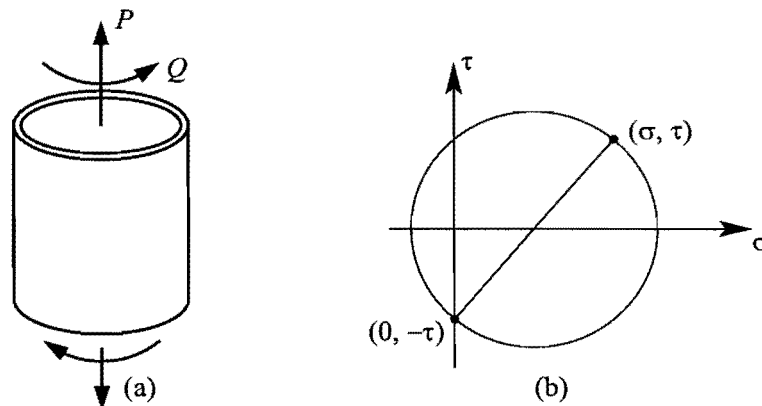

Figure 7
* 13. Classical experiments to investigate yield criteria for various metals were conducted in this Department (*c.* 1930) by Taylor and Quinney. Thin-walled circular tubes were tested in combinations of pure tension P and torsion Q , as shown in Figure 7(a).
- (a) Show that at any stage in a typical test, the resulting stress state can be represented by the Mohr's circle shown in Figure 7(b), where σ is the axial stress, and τ is the shear stress on a face perpendicular to the axis.